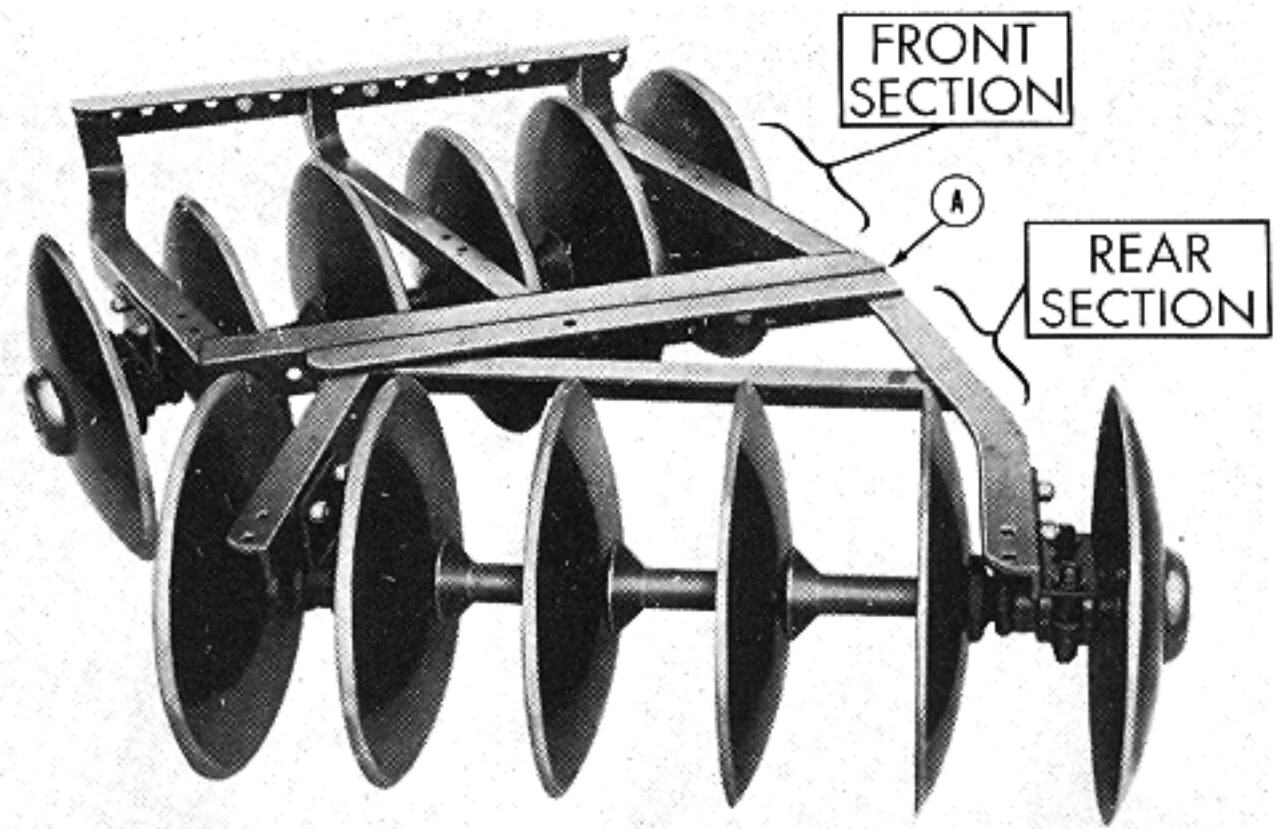

Figure 5
3. Place the assembled front and rear gang sections into the position shown in Figure 5. Note that the front and rear frames form a continuous line at point "A". This setting is for normal operating conditions with no "offset" in the gangs.